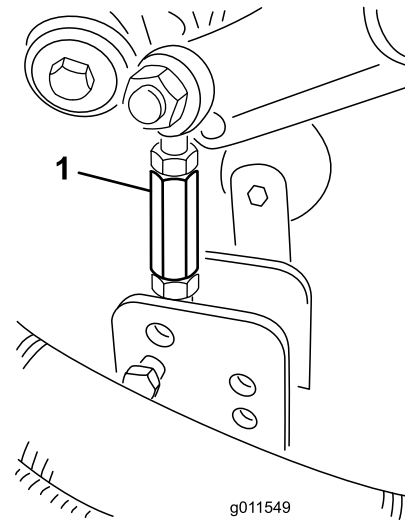

Figure 24
- Remove the hairpin cotters and clevis pins securing the damper links to the mower-deck brackets (Figure 24).